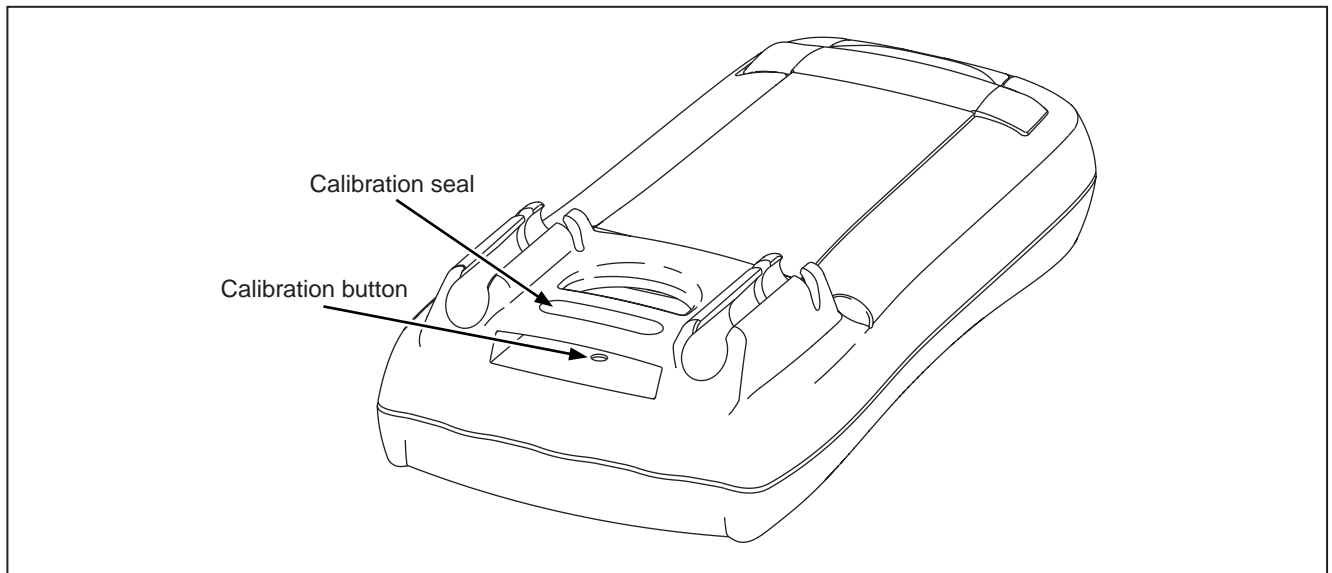

Figure 4. Calibration Access
2. Turn the meter over and find the calibration seal located near the top of the meter. Refer to Figure 4.